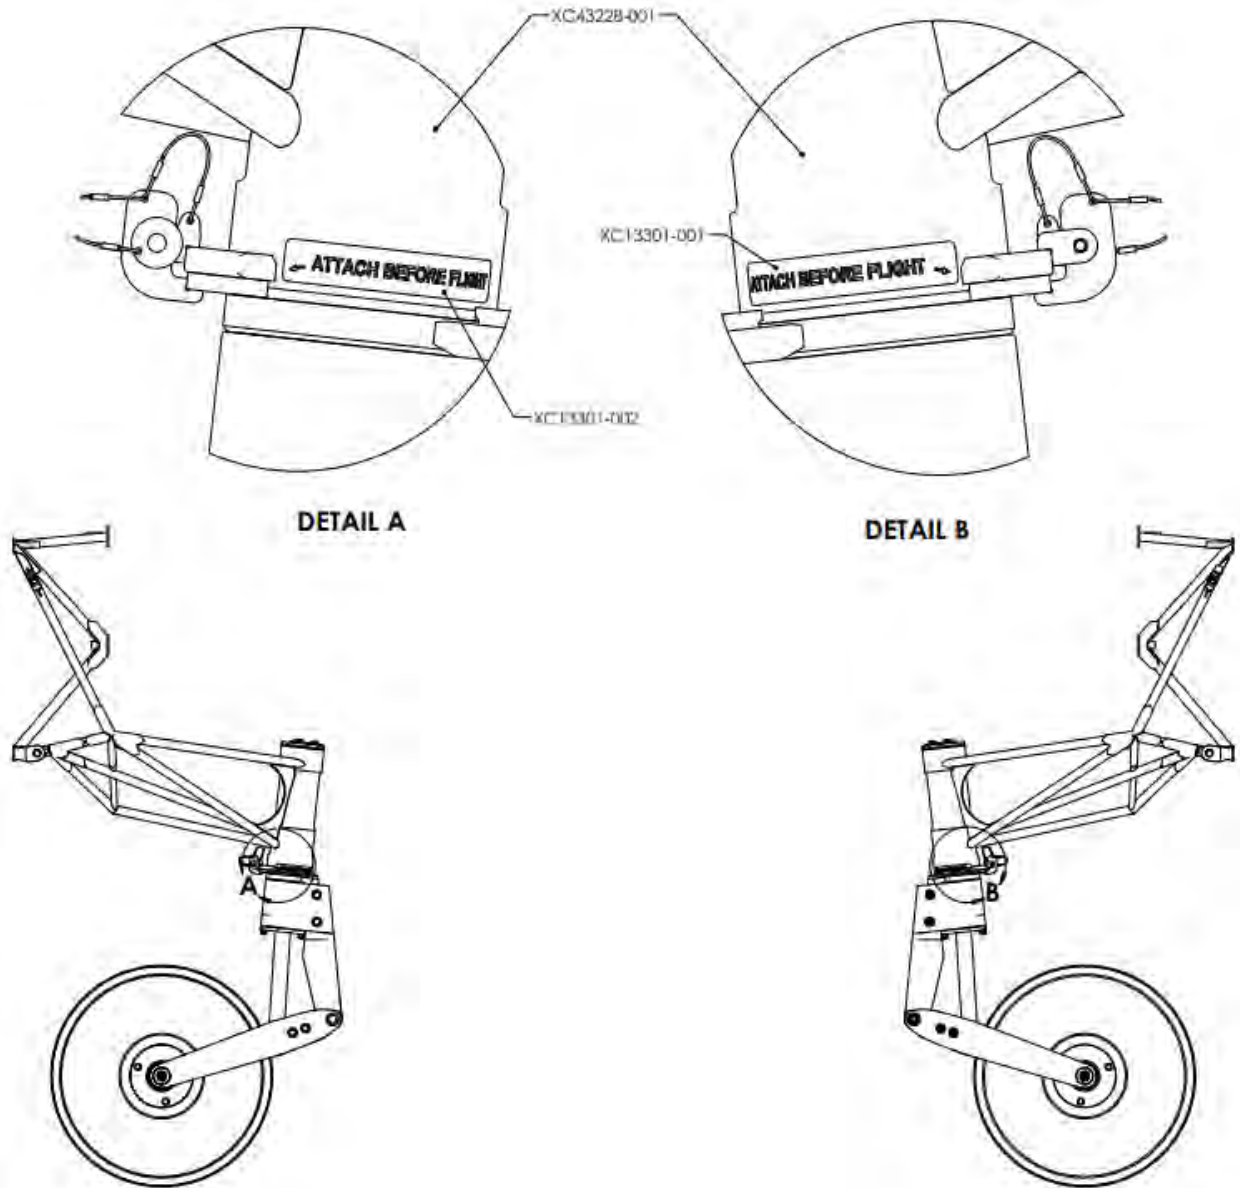

Figure 22 – “Attach Before Flight” Placard
34. Install XC13301-001/-002 placards on nose gear in accordance with Figure 22.